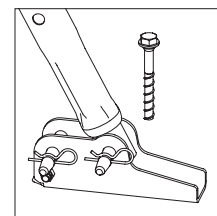

Fig. A5.02b
4. Fix push-pull prop to the Base Plate with bolts and cotter pins. (Fig. A5.02b)